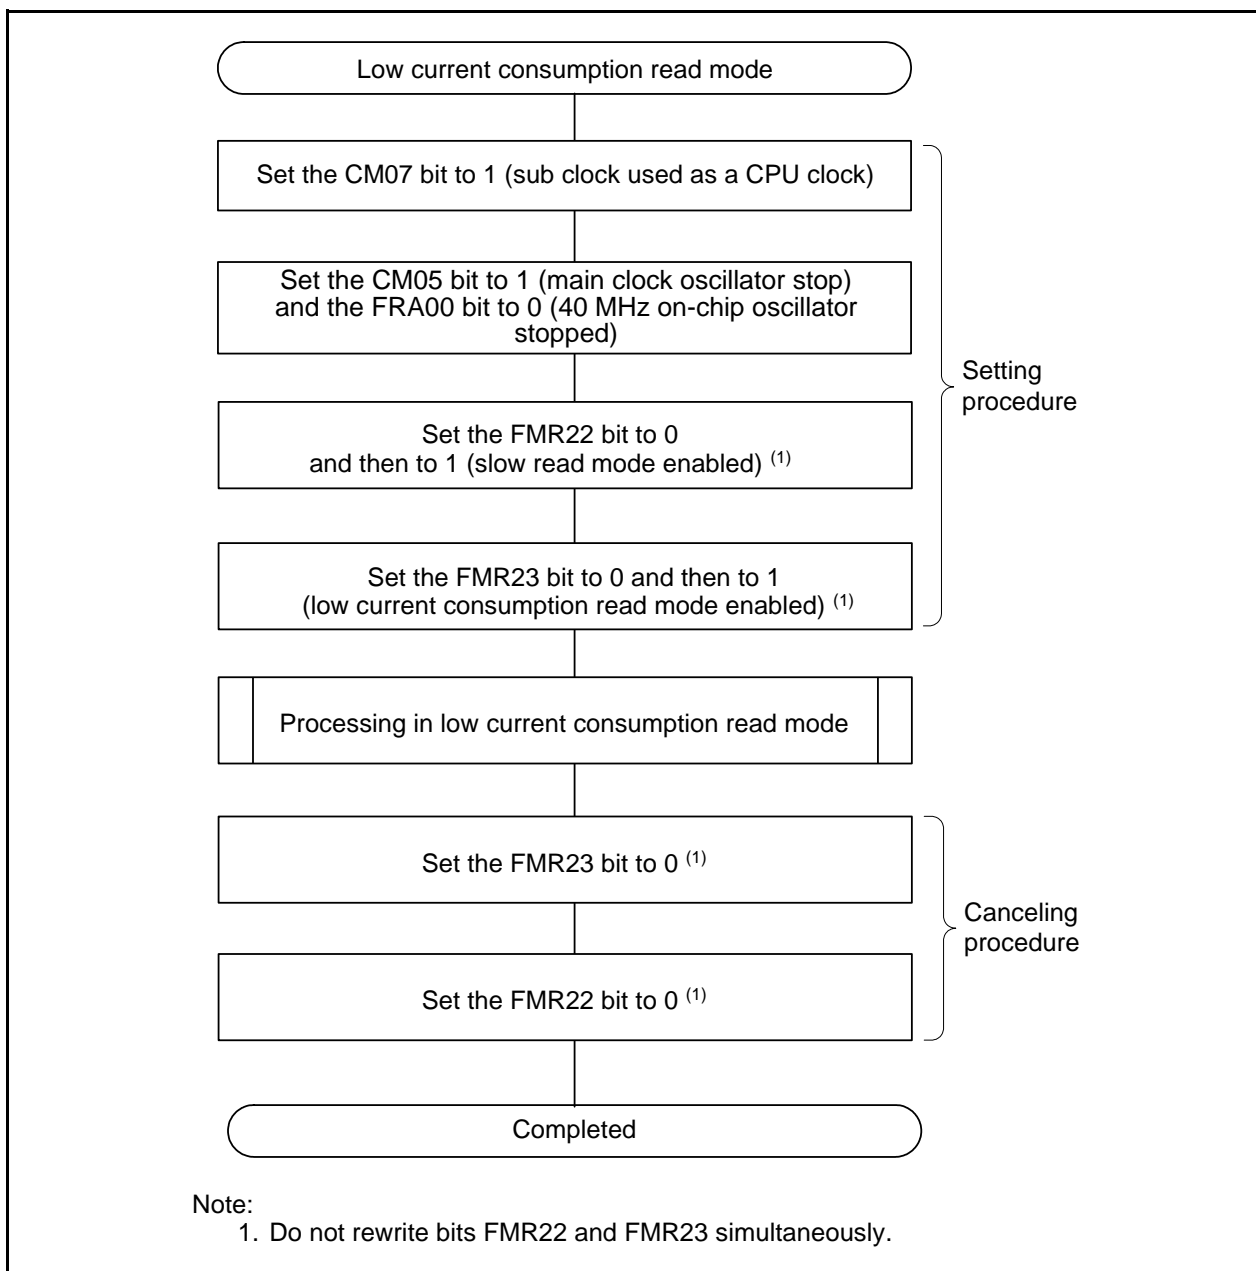

Figure 9.4 Setting and Canceling Low Current Consumption Read Mode
Low current consumption read mode can be used when the CM07 bit in the CM0 register is 1 (sub clock used as CPU clock). Figure 9.4 shows Setting and Canceling Low Current Consumption Read Mode.
- Enter low current consumption read mode through slow read mode (see Figure 9.4 “Setting and Canceling Low Current Consumption Read Mode” for details).